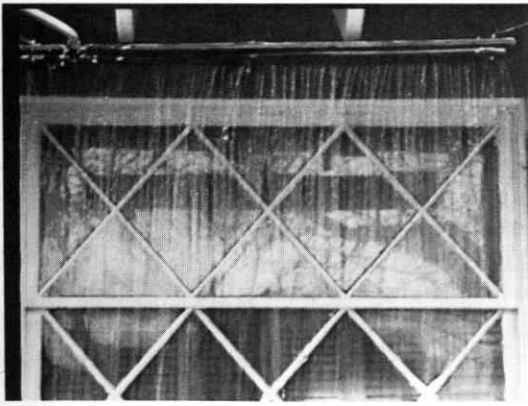

Figure 1-18 Window rain setup
2. Use a drip pipe or spray nozzle overhead (Figure 1-18).